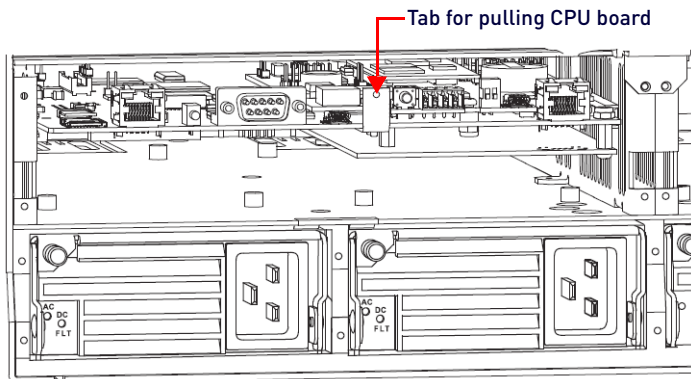

FIG. 134 Enova DGX 6400 - Tab for pulling CPU board
6. Use the tab indicated in FIG. 134 to pull the CPU board approximately four inches straight out of the enclosure: